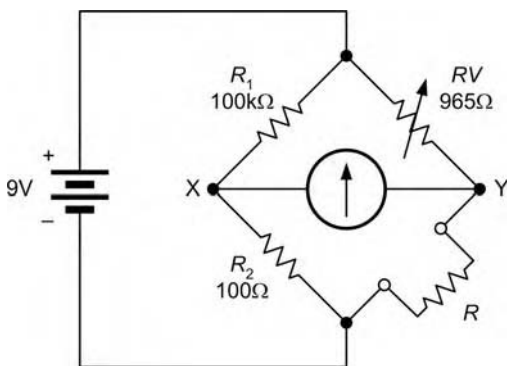

Figure 5.68
8. When no current flows across between X and Y in Figure 5.68, the _____ is said to be _____.
9. In Figure 5.68, determine the value of R .